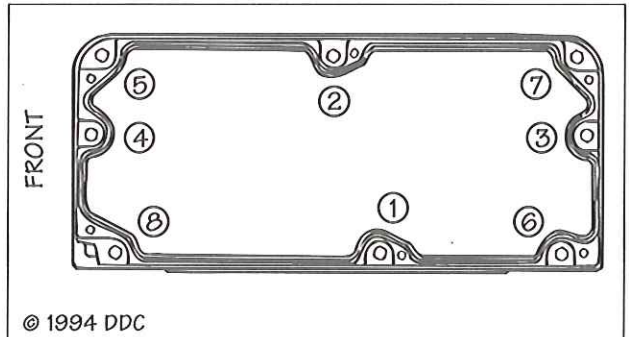

FIG. 34
4. Torque the ten rocker cover base hold-down bolts to 25 lb.-ft. (35 N•m) using the tightening sequence shown in Fig. 34. Tighten the bolts in two stages, using half-torque value first.